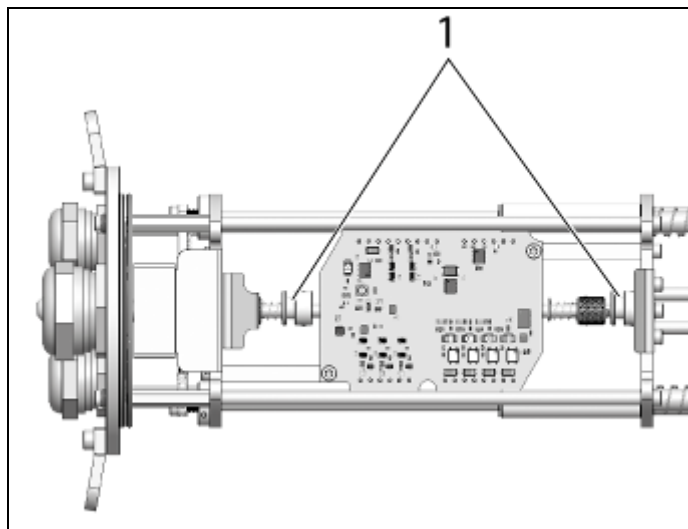
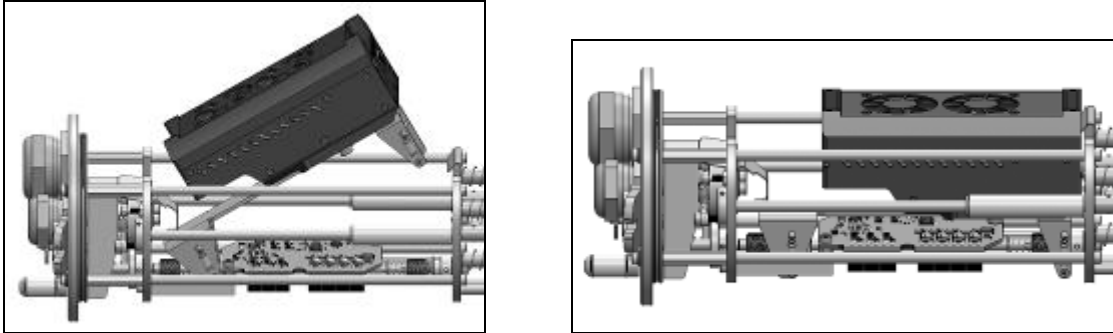

Figure 35: Notch to fix the PI Netbox (top view)
Figure 36: Fitting the PI Netbox into the chassis (right hand view)
At first push the fastening rail with the PI Netbox into the left notch (1) of the shaft. Afterwards into the right notch (1) (**Figure 35**) until it is engaged (**Figure 36**).